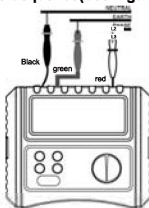

Figure 6
**XI. Detecting Phase Sequence(See Figure 6)**
- Connect three test leads into three-phase AC system(black to L1, green to L2, red to L3, refer to Figure 6 for details). The tester will automatically indicate the phase sequence and open phase result on the LCD.